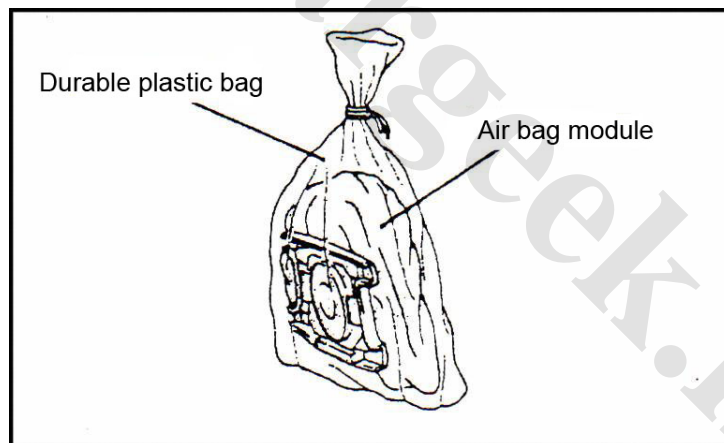

Fig. 5-12
8. Put the air bag into a plastic bag, fasten the mouth of the bag, and then dispose as scrap. See Fig. 5-12.